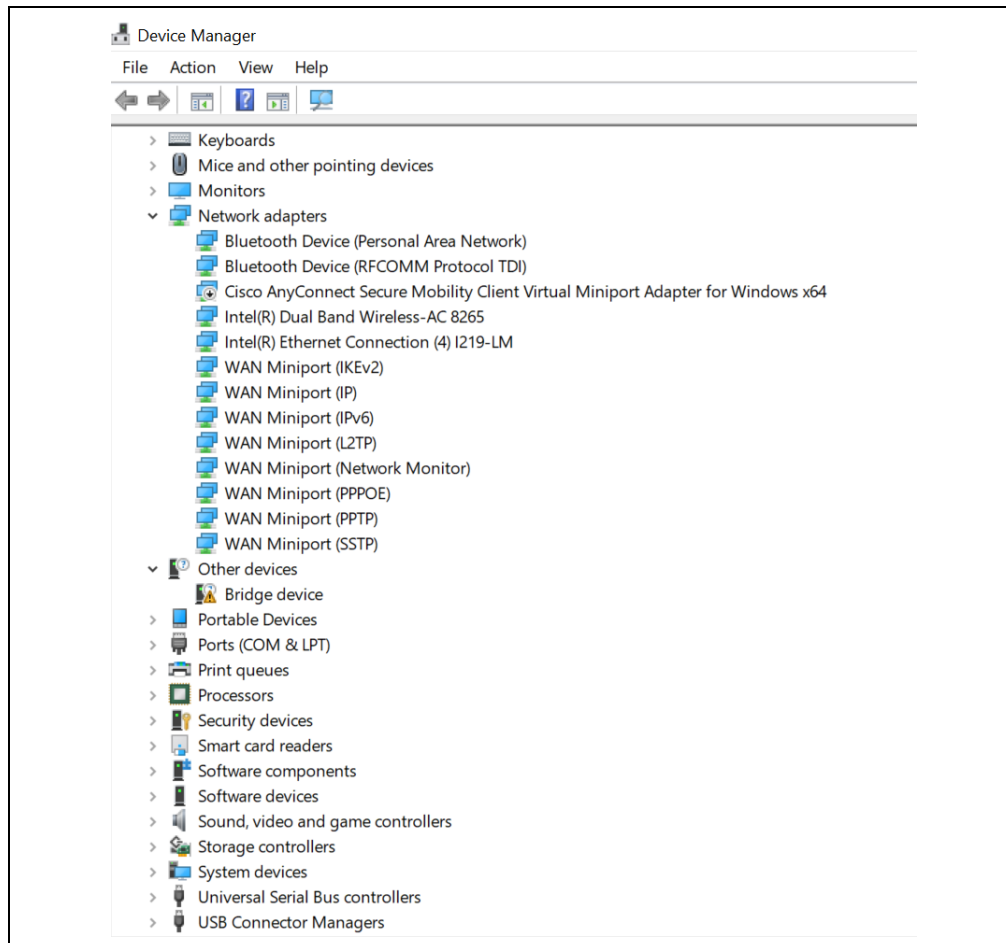
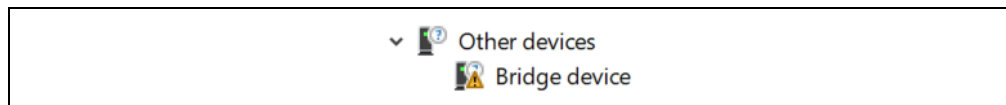

FIGURE 2-1: View of "Device Manager" Screen.
FIGURE 2-2: Close-up of "Bridge device" with Error.
2. Open "Device Manager". Look at "Bridge device". If it has a yellow triangle/exclamation mark as shown in Figure 2-1 and Figure 2-2, the correct USB driver needs to be installed.